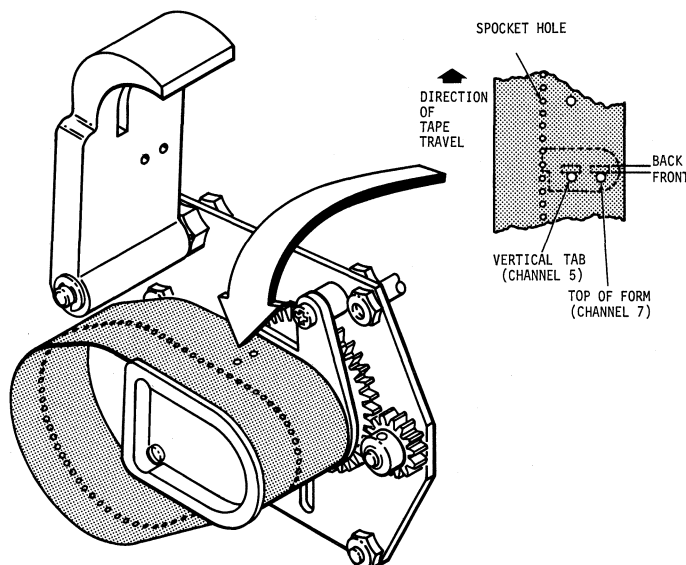

Figure 5-11. PAPER TAPE READER ADJUSTMENT
A. Paper Tape Reader Adjustment/Maintenance (See Figure 5-11)
4. At the point where the leading edges of both the VT and TOF holes align with the front edges of the slits or light holes on the top of the lower tape reader, stop turning the shaft. (Fig. 5-11)